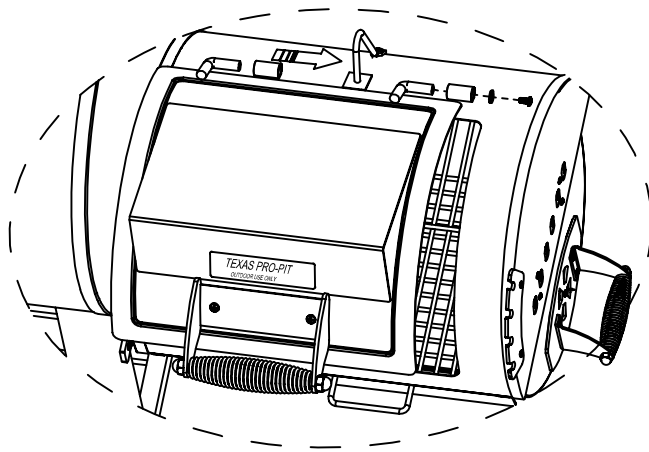

fig. 19b
- Fit firebox door assembly (38) onto the firebox unit and secure with the hinge locking screw fig. 19b (supplied).